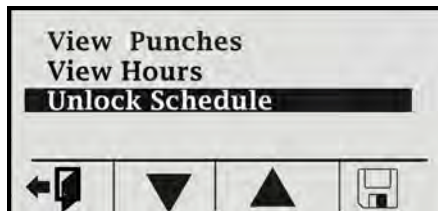
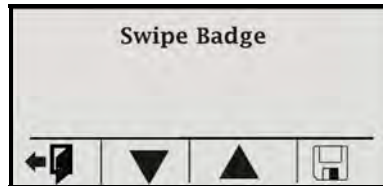

Figure 25: MTX-15 Unlock Schedule at Terminal
Figure 26: Swipe Supervisor Badge
- Step 1.** From the normal main display press the menu  button on the left to view employee information choices (see **Figure 25**).
Step 2. Use the Function buttons (see **Figure 25** as indicated underneath the display to move Up ▲ and Down ▼ to highlight “Unlock Schedule” and press **enter enter** on the keyboard to select. The screen will change to the following (see **Figure 26**).